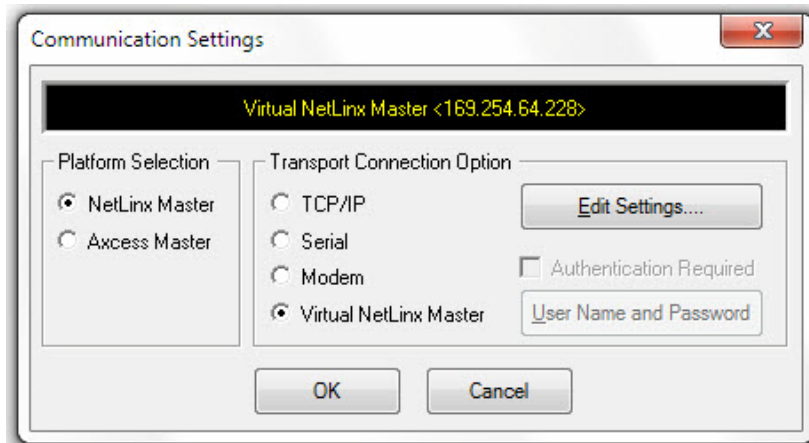

FIG. 65 Communications Settings dialog box
- Click the **Communications Settings...** button to open the *Communications Settings* dialog box (FIG. 65).